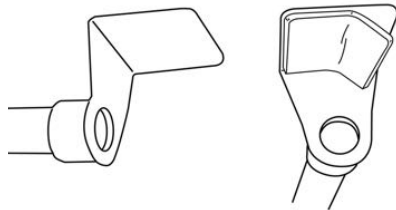

Figure 5. Support Arms and Installing Felt Pads
3. Notice that on each end of the PianoMic™ bar there are support brackets that will be placed on the upper edge of the piano case sides. These support brackets have rounded edges and are covered with a soft polyolefin coating to avoid scratching the piano. The support brackets are thin enough to allow the piano lid to be completely closed with the PianoMic™ System inside the piano. The PianoMic comes with felt pads installed on the top of each support arm. If you desire a more snug fit with the lid closed or if vibration becomes an issue, install one of the enclosed spare felt pads on the bottom side of the support brackets as shown in Figure 5.